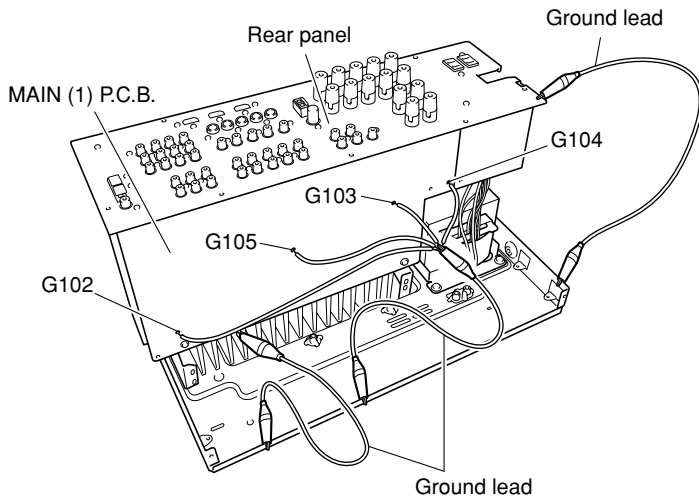

Fig. 5
- d. Place the P.C.B. upright. (Fig. 5)
Be sure to connect the ground of rear panel and MAIN (1) P.C.B. (G102, G103, G104 and G105) to the chassis with a ground lead or the like. (Fig. 5)